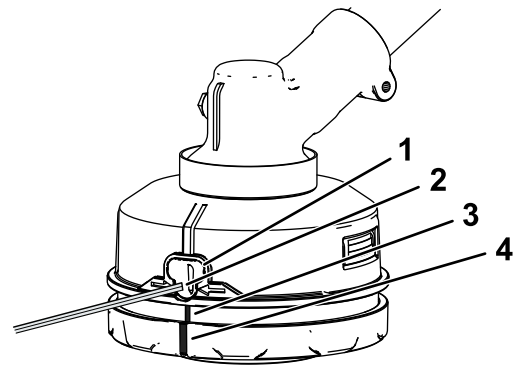

Figure 14
4. Press and turn the bottom of the trimmer head in the direction shown by the arrows (clockwise) on the bottom of the bump head until the bottom green marks align with the green marks beneath the eyelets (Figure 14).